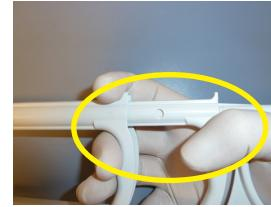
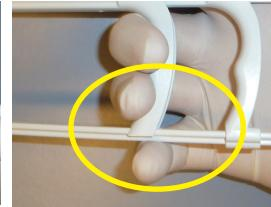

Figure 7
Figure 8
- h) With your hand firmly around the handle assembly, and your thumb in a cocked position, your index finger on the top of the first handle assembly as shown in Figure 7 above and your middle and ring finger firmly resting on the middle assembly as shown in Figure 8 slowly pull back on the 1st trigger assembly with a firm non-jerking motion.